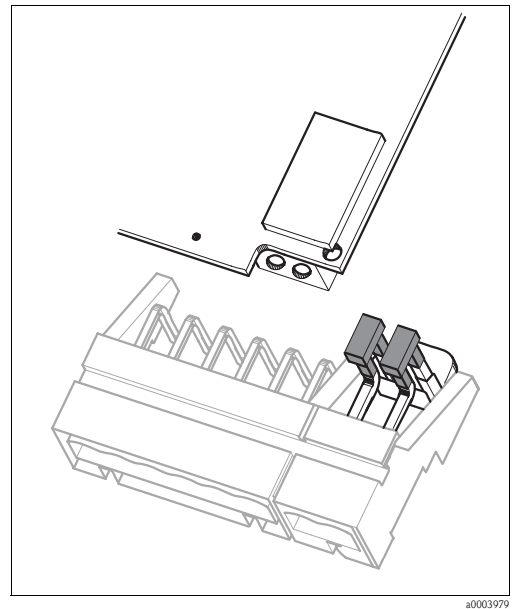

Fig. 30: pH input module in the housing cover with jumper for connecting ISFET sensors
6. Attach the jumpers supplied as illustrated in Fig. 30.